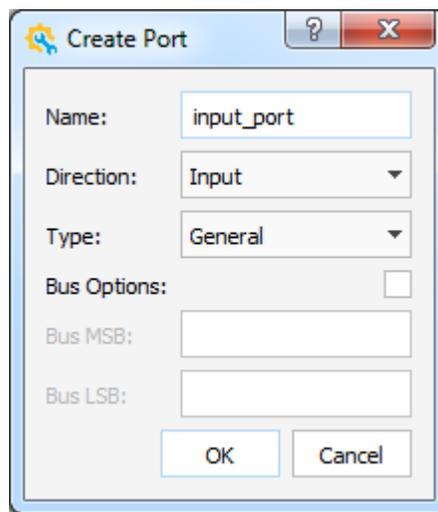

Figure 2.38. Create Port Dialog Box
- a. Right-click in the Schematic view, and choose **Create Port**. The Create Port dialog box pops up (Figure 2.38).